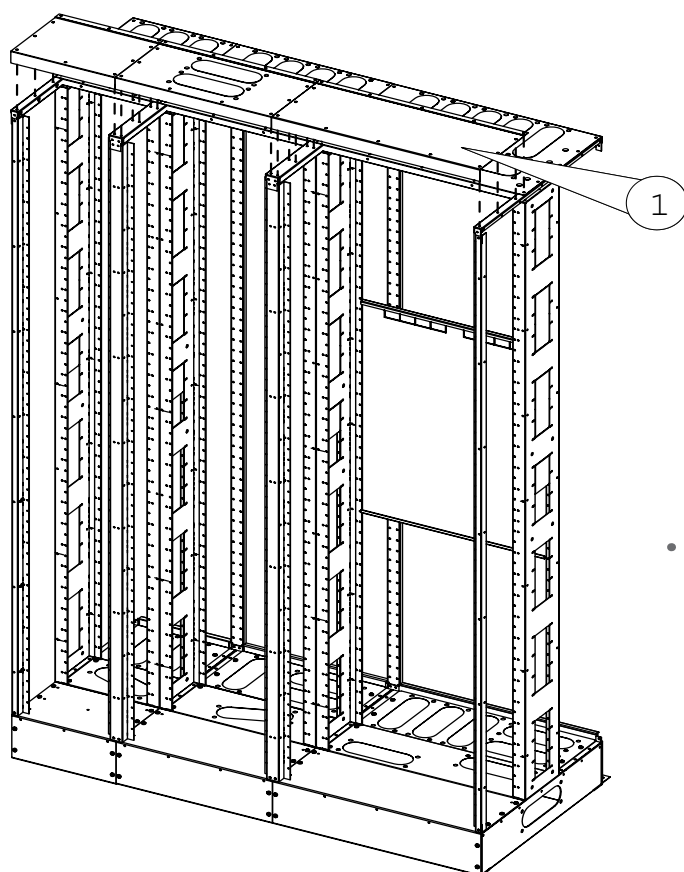

Fig. 2.17. Back roof plates are fastened with screws to end and intermediate profiles after fixing the back profiles.
After installing the rear profiles you can fasten the back roof plates (1) to the roof profiles, Fig. 2.17.